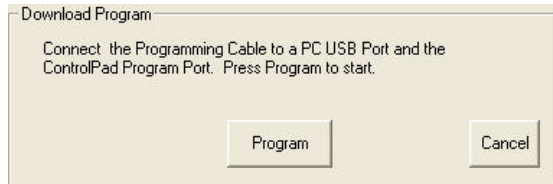

FIG. 45 Download Program window
2. Click on the **Program** menu bar item. This invokes the *Download Program* window (FIG. 45).